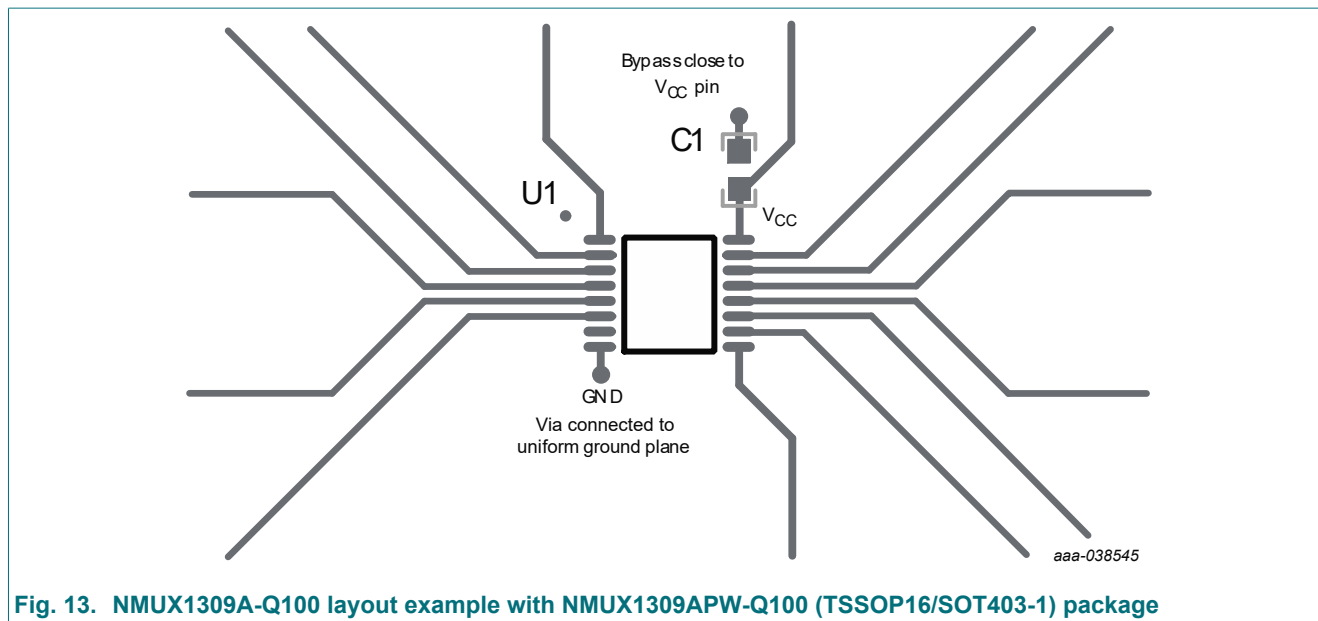

Fig. 13. NMUX1309A-Q100 layout example with NMUX1309APW-Q100 (TSSOP16/SOT403-1) package
The image provided below (Fig. 13) offers a glimpse into an example PCB layout with the (PW) package. Bypass capacitors should be positioned near the V_{CC} pin, and the GND pin should be connected to external/internal GND planes. A uniform GND plane helps in reducing noise and minimizing loop inductance, thereby ensuring optimal performance.